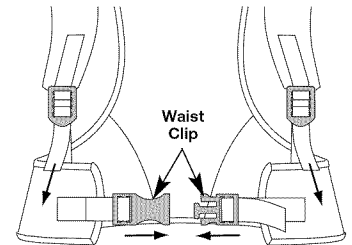

Fig. 16
- Connect both ends of the waist clip (Fig. 16).
- Adjust shoulder buckles and waist clip, by pulling or releasing the straps, for the best possible comfort and support (Fig. 16).